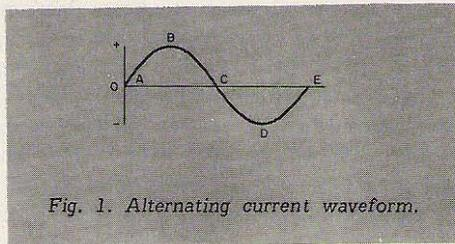

Fig. 1. Alternating current waveform.
When alternating current (Fig. 1) flows through a coil, a magnetic field builds and collapses with each change of polarity. When ac is initially applied, voltage and current flow in each turn of the coil. A magnetic field builds up around that turn, inducing voltage in the following turn. The induced voltage is in opposition to the input voltage. Thus, as voltage builds during the first alternation of the ac cycle (ABC) the coil tends to oppose the flow of current.
As shown in Fig. 1, current reaches its peak at B and begins to decline. The magnetic field collapses, inducing a voltage in the coil. This voltage is in opposition to the voltage of the second alternation (CDE) and will thus resist current flow.
Electron flow is to plate A and away from plate B during the first half-cycle (AB, Fig.1). The capacitor holds this charge until the second half-cycle (CD) causes electrons to flow to plate B and away from plate A.